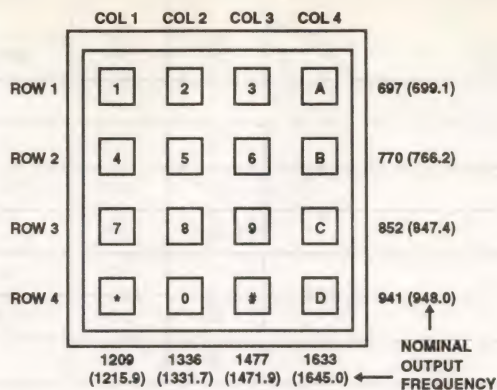

FIGURE 1. BELL AND NOMINAL OUTPUT FREQUENCIES (IN PARENTHESIS) FOR 3.579545MHz CRYSTAL
8. Refer to Figure 1 for standard DTMF frequencies.